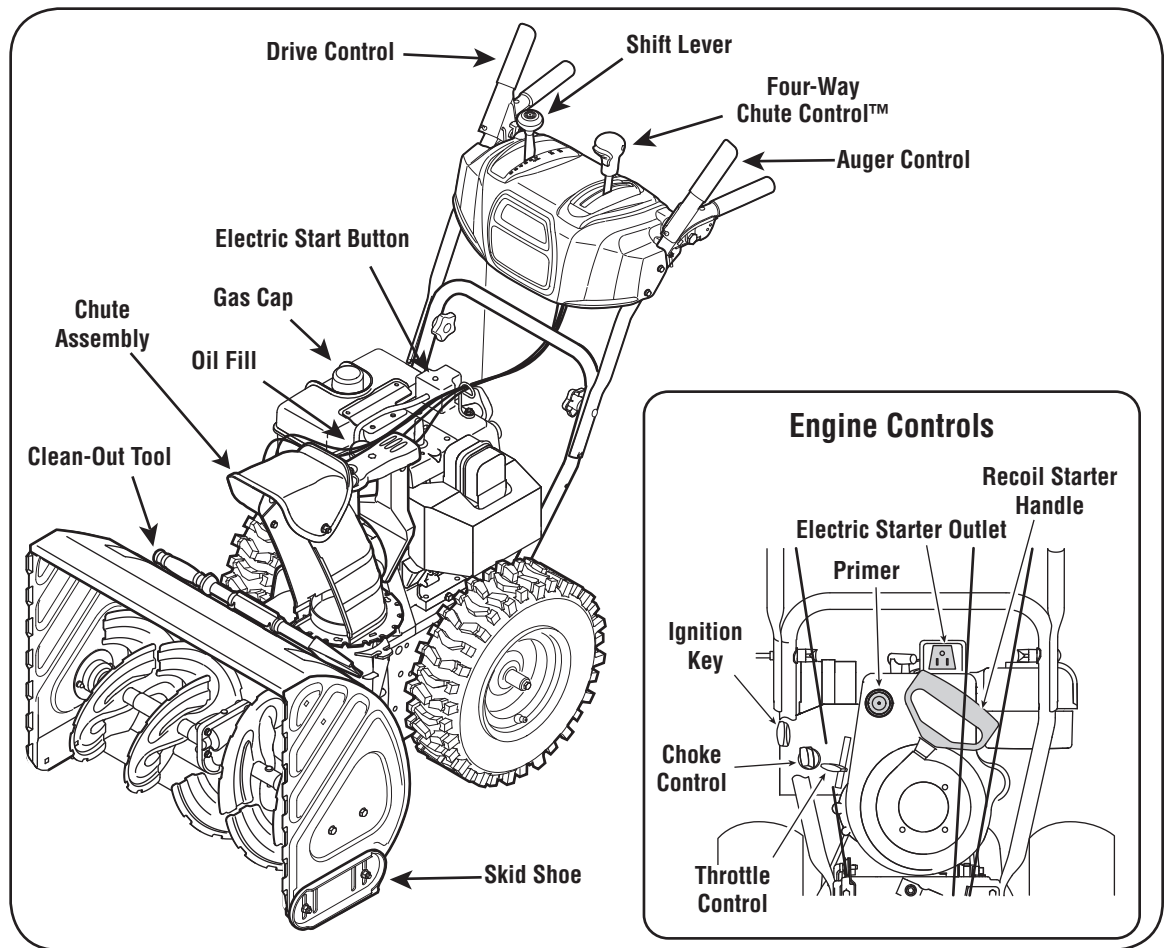

Figure 12
3. To turn the unit left or right, squeeze the respective wheel steering control. See Figure 12.